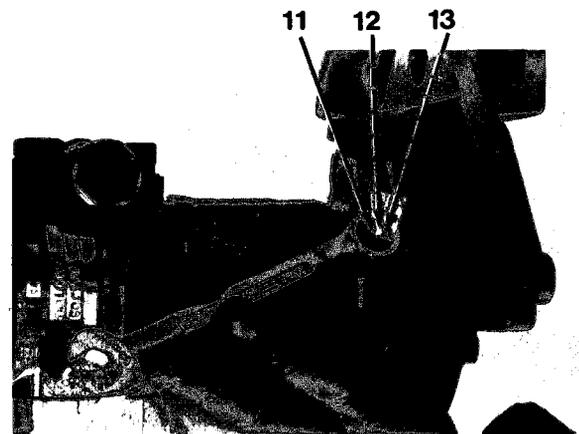

Figure 7-14
20. Install O-ring (13) and special washer (12) on capscrew(11, Figure 7-14).
21. Position shaft as marked during disassembly and install screw assembly (11) into injection pump to lock.